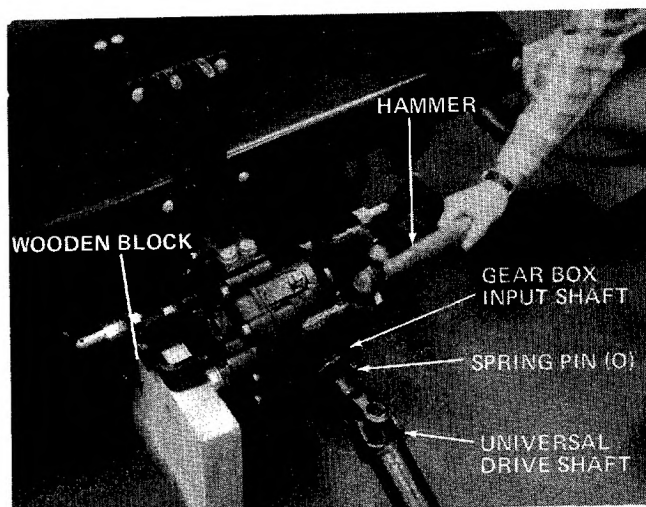

FIGURE 10
11. Block up the front of the tiller so that the input shaft is clear of the ground. Place the universal drive shaft in position on input shaft of gear box and secure with spring pin (O). See figure 10. A hammer is required.